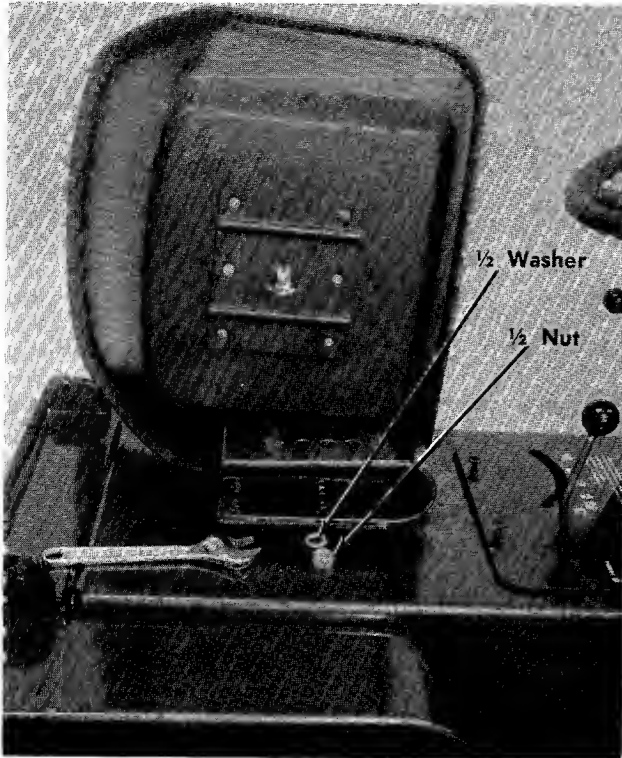

FIGURE 3.
5. Place the seat bolt through one of the holes in the seat spring. (See figure 3)